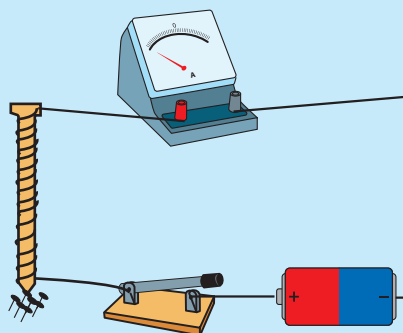

Figure 10.36 ▲
- (Step 1) Connect the coil to the ammeter, switch and one dry cell in series as shown in Figure 10.36. Close the switch. Bring the coil close to the pins. You will find that the pins are attracted to the coil. Count the number of pins attracted and record.